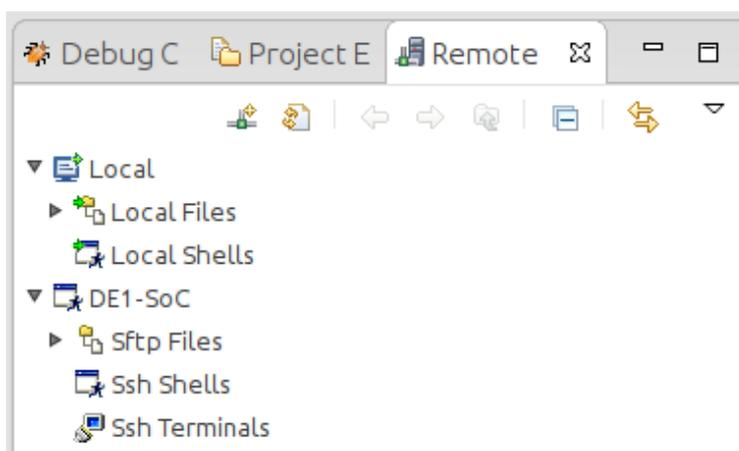

Figure 13-13. New SSH Connection In “Remote Systems” View
79. You should be able to see the remote system in ARM DS-5’s “Remote Systems” view, as shown in Figure 13-13.